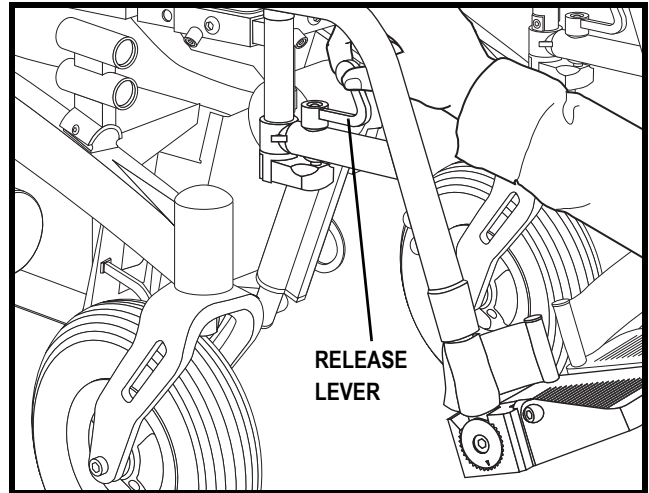

Figure 19. Swing-away Footrest
1. Push the release lever to either side. See figure 19.
1. Remove the screws from the SFR. See figure 19.